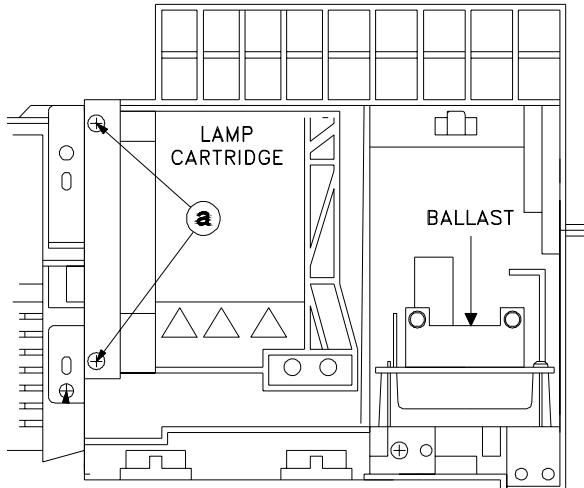

Figure 1: Duct Assembly (Rear View)
- 1) Loosen two screws (**a**) to remove the Lamp Cartridge, refer to *Figure 1*.